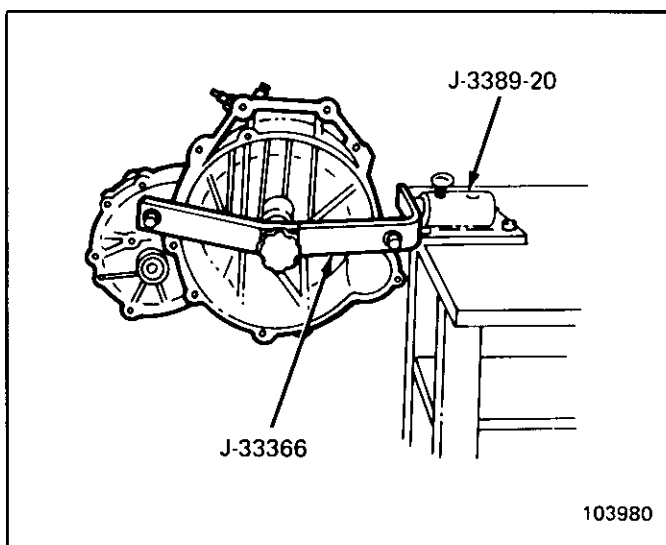

Figure 7 Transaxle Attached to J-33366
1. Remove the clutch release bearing. Attach the transaxle assembly to the transaxle holding fixture (J-33366). Attach J-33366 to base plate J-3389-20 (Figure 7).